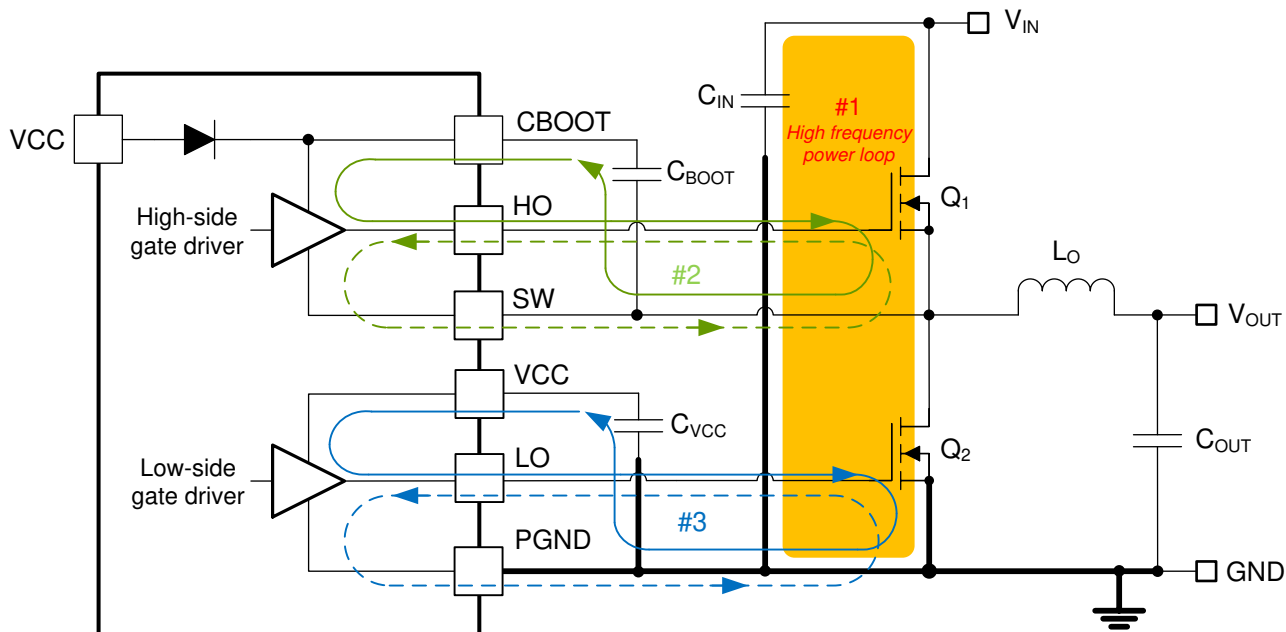

图 11-1. DC/DC Regulator Ground System With Power Stage and Gate Drive Circuit Switching Loops
Proper PCB design and layout is important in a high-current, fast-switching circuit (with high current and voltage slew rates) to achieve a robust and reliable design. As expected, certain issues must be considered before designing a PCB layout using the LM25148. The high-frequency power loop of a buck regulator power stage is denoted by loop 1 in the shaded area of 图 11-1. The topological architecture of a buck regulator means that particularly high di/dt current flows in the components of loop 1, and it becomes mandatory to reduce the parasitic inductance of this loop by minimizing its effective loop area. Also important are the gate drive loops of the high-side and low-side MOSFETs, denoted by 2 and 3, respectively, in 图 11-1.
- Loop 1: The most important loop area to minimize is the path from the input capacitor or capacitors through the high- and low-side MOSFETs, and back to the capacitor or capacitors through the ground connection. Connect the input capacitor or capacitors negative terminal close to the source of the low-side MOSFET (at ground). Similarly, connect the input capacitor or capacitors positive terminal close to the drain of the high-side MOSFET (at VIN). Refer to loop 1 of 图 11-1.
- The SW pin connects to the switch node of the power conversion stage and acts as the return path for the high-side gate driver. The parasitic inductance inherent to loop 1 in Figure 11-1 and the output capacitance (C_{OSS}) of both power MOSFETs form a resonant circuit that induces high frequency (greater than 50 MHz) ringing at the SW node. The voltage peak of this ringing, if not controlled, can be significantly higher than the input voltage. Make sure that the peak ringing amplitude does not exceed the absolute maximum rating limit for the SW pin. In many cases, a series resistor and capacitor snubber network connected from the SW node to GND damps the ringing and decreases the peak amplitude. Provide provisions for snubber network components in the PCB layout. If testing reveals that the ringing amplitude at the SW pin is excessive, then include snubber components as needed.
- Loop 2: high-side MOSFET, Q_1 . During the high-side MOSFET turnon, high current flows from the bootstrap (boot) capacitor through the gate driver and high-side MOSFET, and back to the negative terminal of the boot capacitor through the SW connection. Conversely, to turn off the high-side MOSFET, high current flows from the gate of the high-side MOSFET through the gate driver and SW, and back to the source of the high-side MOSFET through the SW trace. Refer to loop 2 of Figure 11-1.
- Loop 3: low-side MOSFET, Q_2 . During the low-side MOSFET turnon, high current flows from the VCC decoupling capacitor through the gate driver and low-side MOSFET, and back to the negative terminal of the capacitor through ground. Conversely, to turn off the low-side MOSFET, high current flows from the gate of the low-side MOSFET through the gate driver and GND, and back to the source of the low-side MOSFET through ground. Refer to loop 3 of Figure 11-1.